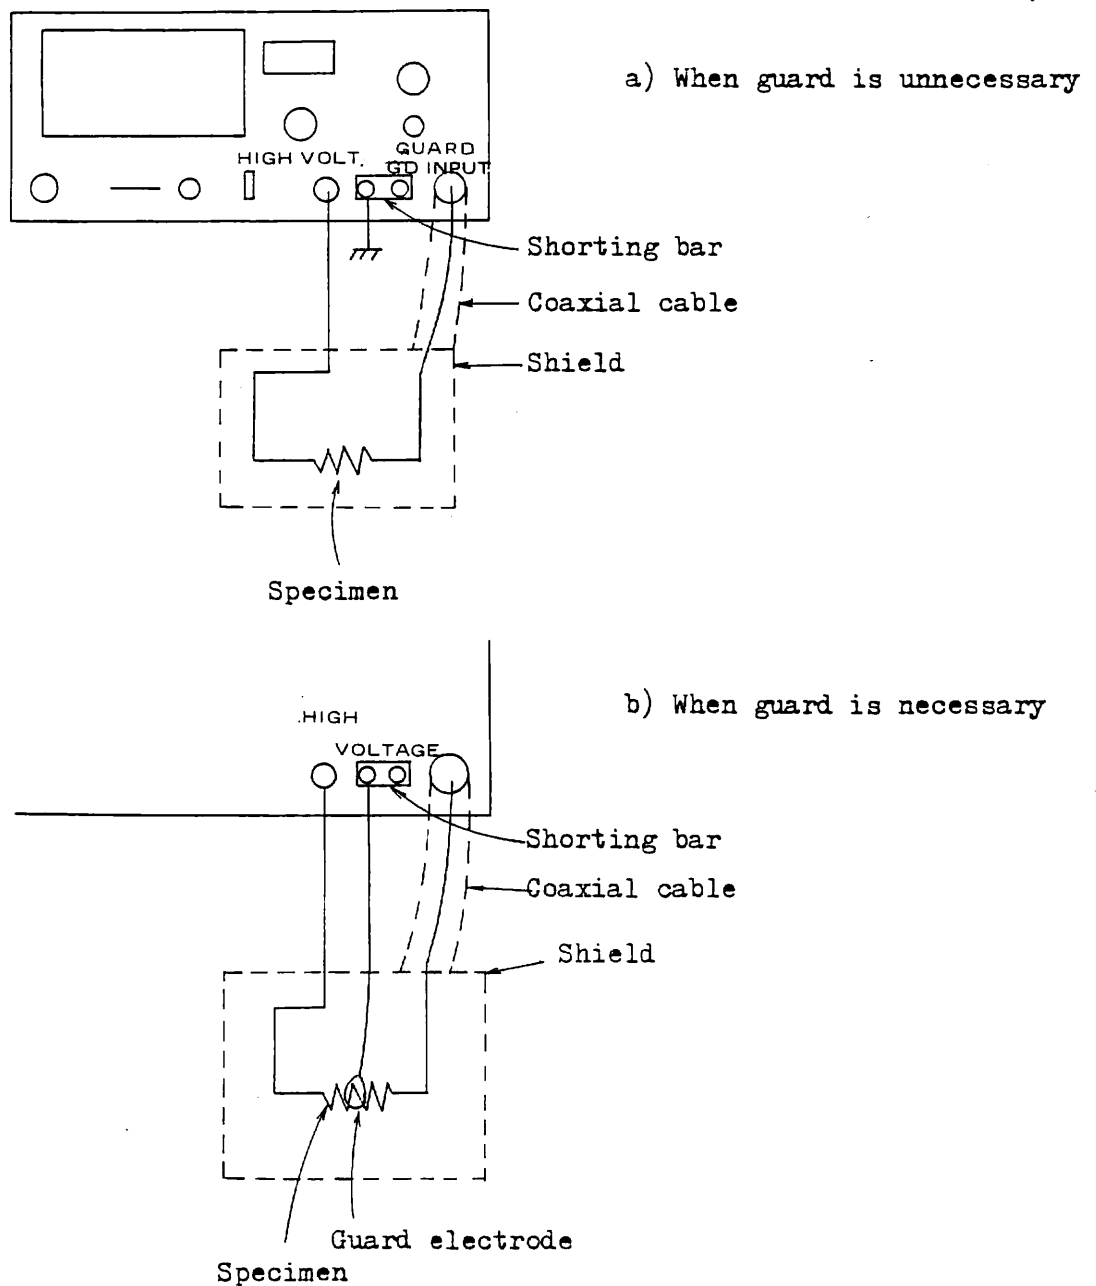

Fig. 4-2 Measurement method
- 2) Connect the end of the cable to the specimen as shown in Fig. 4-2 Measurement method on P10.